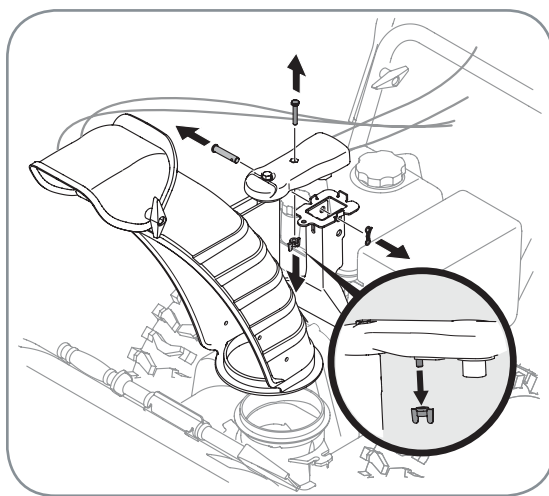

Figure 3-2
2. Remove wing nut and hex screw from chute control assembly and clevis pin and cotter pin from chute support bracket. See Figure 3-2. Position the chute assembly (forward-facing) over the chute base.